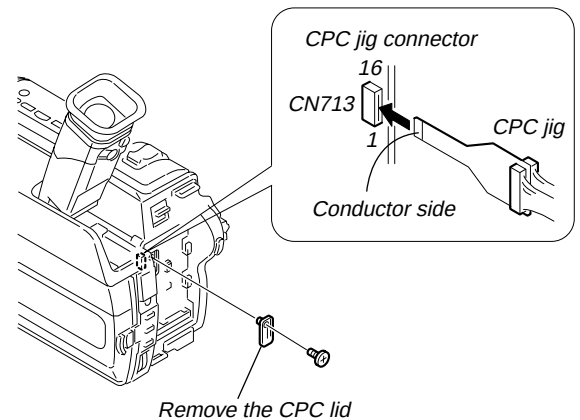

Fig. 5-1-3.
- 2) Connect the adjustment remote commander to CN713 of VC-272 board via the I/F unit for LANC control (J-6082-521-A) and CPC jig connector (J-6082-539-A). To operate the adjustment remote commander, connect the AC power adapter to the DC IN jack of I/F unit for LANC control, or connect the L series Info-LITHIUM battery to the battery terminal of I/F unit for LANC control. (Fig. 5-1-3.)